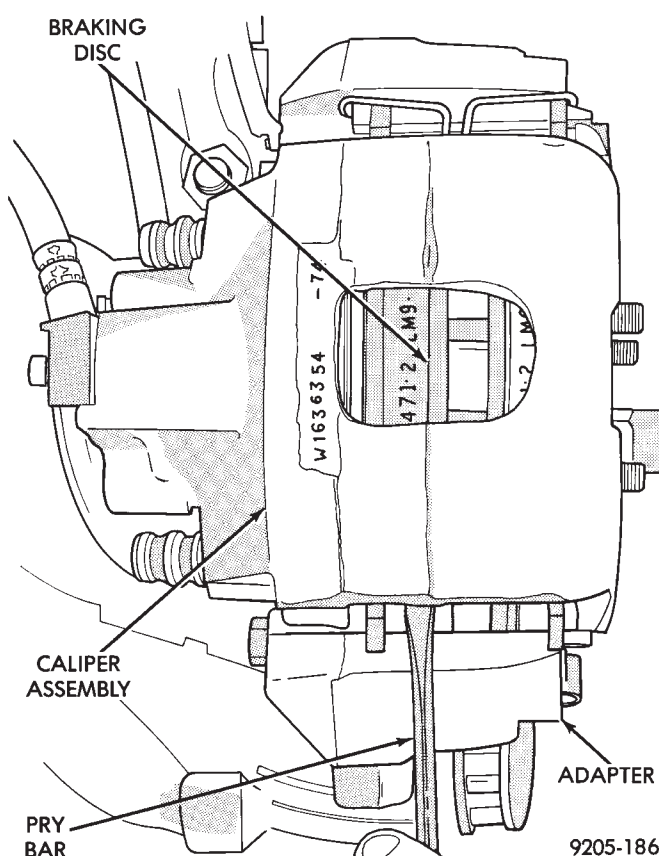

Fig. 2 Loosening Family Caliper Assembly From Adapter And Rotor
- (4) After removing the caliper guide pin bolts. Pry the caliper away from the braking disc with a pry bar or screwdriver (Fig. 2).